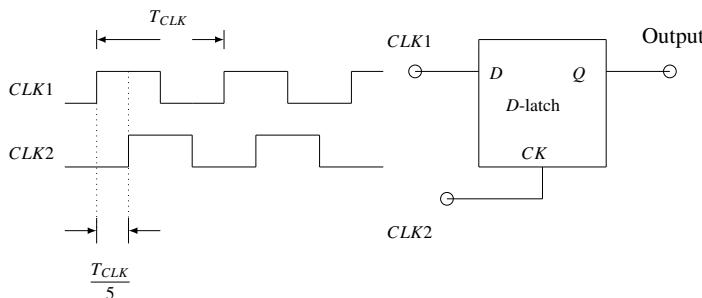

Fig. 5.14
14. Consider the  $D$ -Latch shown in Fig. 5.14, which is transparent when its clock input  $CK$  is high and has zero propagation delay. In the figure, the clock signal  $CLK_1$  has